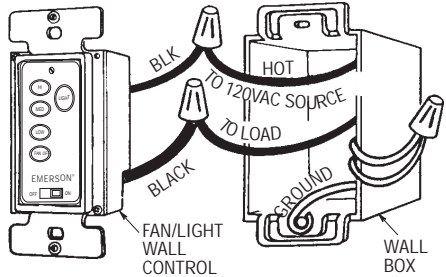

Figure 19
4. Connect one black wire of wall control to the "hot" wire. Securely connect wires with wire connectors supplied (Figure 19).